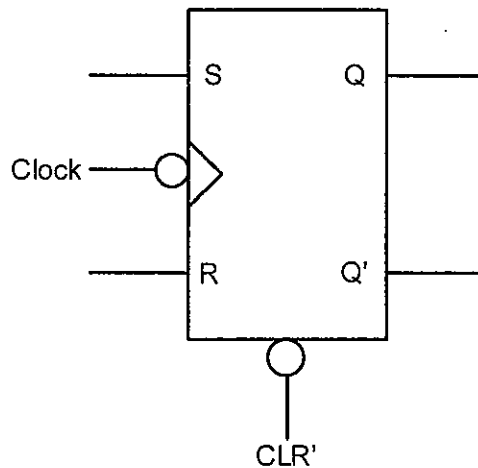

Figure Q4(b)(i) / Rajah Q4(b)(i)
- (b) Refer Figure Q4(b)(i), sketch the output waveform of Q1 and Q2 in Figure Q4(b)(ii) in an attachment sheet based on the given timing diagram;
- (c) Figure Q4(c) is a bidirectional register 74194;